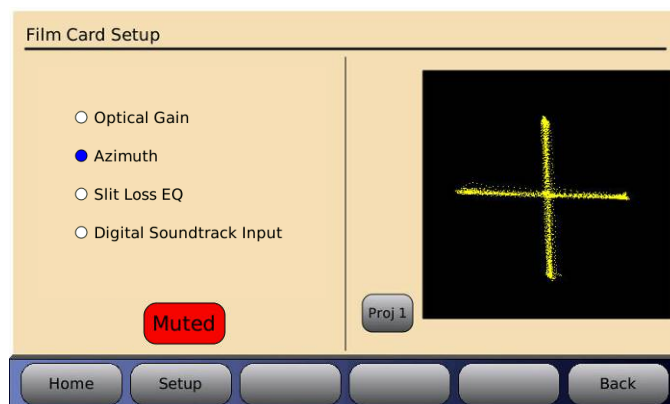

Figure 15 – Optimum LED to lens alignment
- ☑ Note: while running the CAT 97 test film you can also select Azimuth in the AP20’s optical set up screen. If alignment is correct you should be able to observe a cross on the screen as shown in **Figure 15**. The same applies to viewing on the oscilloscope in X/Y mode.
This can also be viewed on the AP20 screen by going to **Menu (System) → Formats → Format Options → Film Options → Film Setup** and Selecting **Azimuth** (see **Figure 15**).